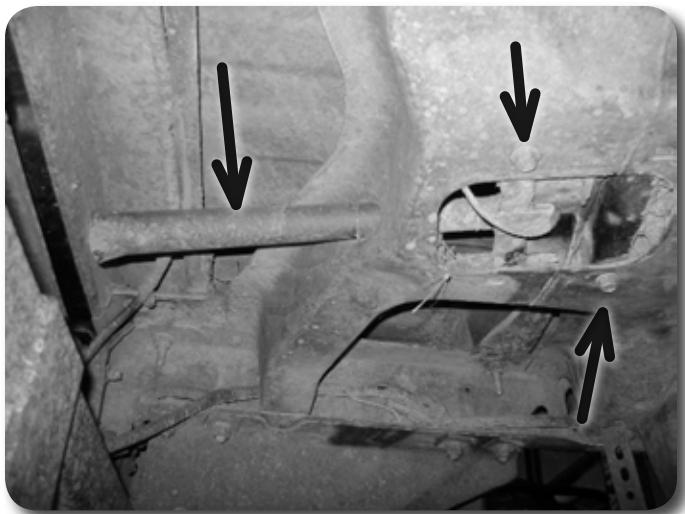

Figure 28
80. Disconnect the plastic winch crank guide tube and pull it free from the frame. **Figure 28**